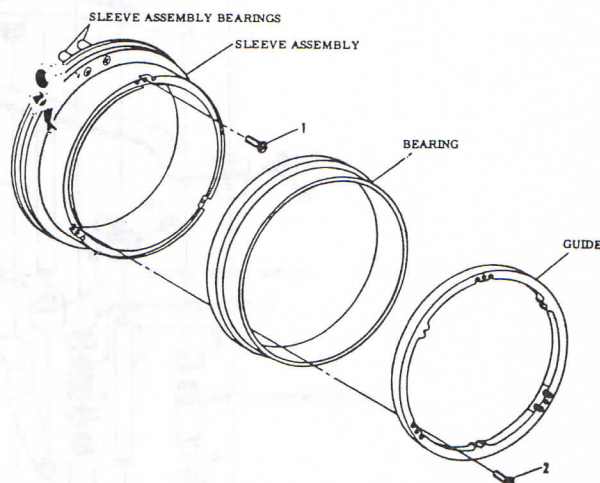

Figure 1-6. LENS BARREL SLEEVE REASSEMBLY
2. Lens Barrel Sleeve (Figure 1-6)